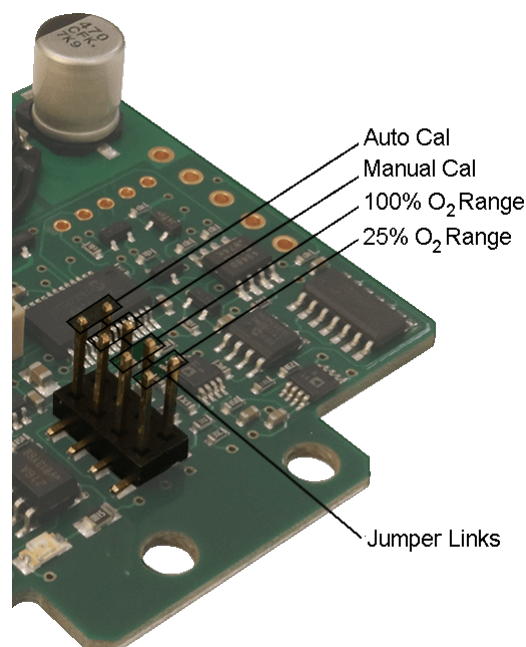

Figure 7-2 - Jumper Link Configuration
**NOTE:** Ensure jumper links are correctly seated and in the correct orientation as shown in Figure 7-2.